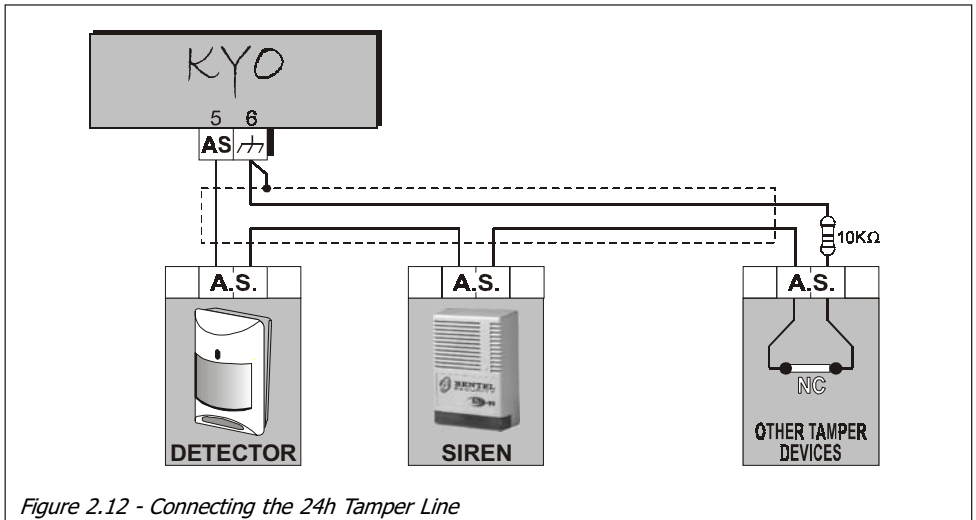

Figure 2.12 - Connecting the 24h Tamper Line
The Control panel (except KYO16D) has a 24h 10K Balanced Tamper line (Terminals 5 [AS] and 6 [⚡]). The Tamper terminals of the system peripherals must be connected in series to these terminals. The wiring diagram in Figure 2.12 illustrates a typical connection.
*10 K $\Omega$  Balance resistor must be connected to the last device, as shown in Figure 2.12.*